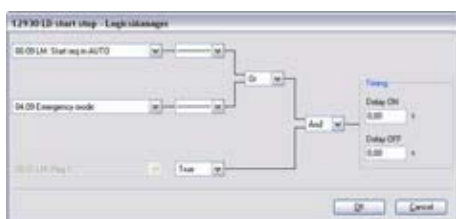

Fig. 158: LogicsManager function "LD start stop"
3. ➤ Configure the LogicsManager function "LD start stop" as shown in (Fig. 158) to enable LDSS if a start request in automatic operating mode or emergency mode are enabled.